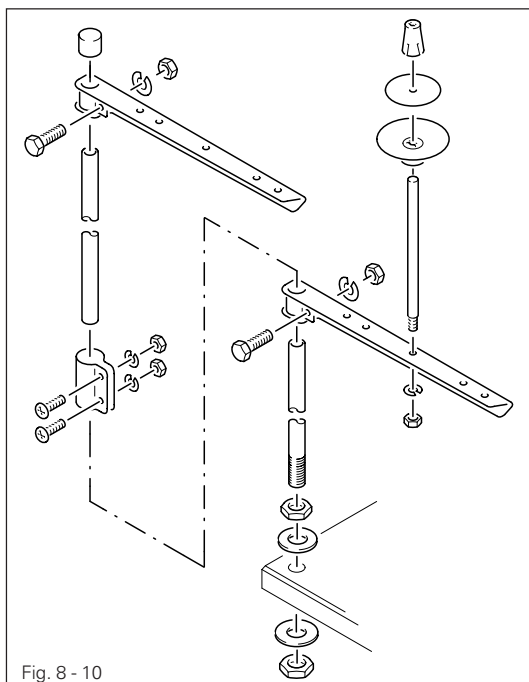

Fig. 8 - 10
- Mount the spool holder as shown in Fig. 8 - 10.